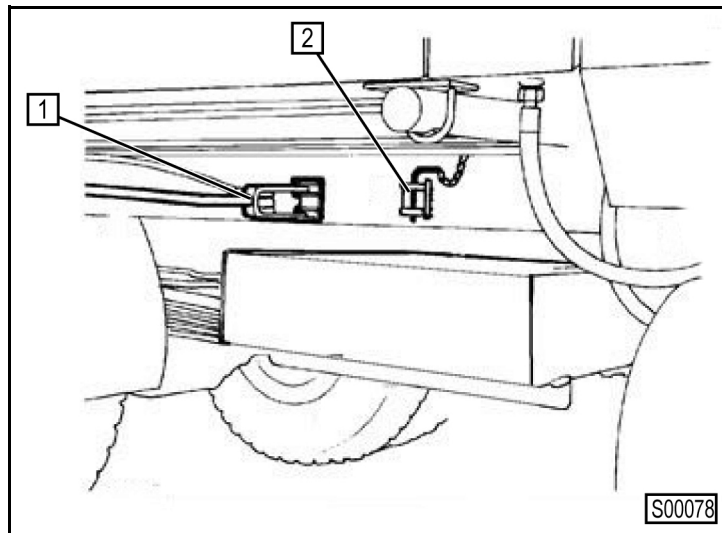

Fig. 133 Axle safety catch
Caption (Fig. 133)
- Swing the levers (1) (**Fig. 133**) forward on each side of the vehicle and secure with the safety bolt (2) (**Fig. 133**).